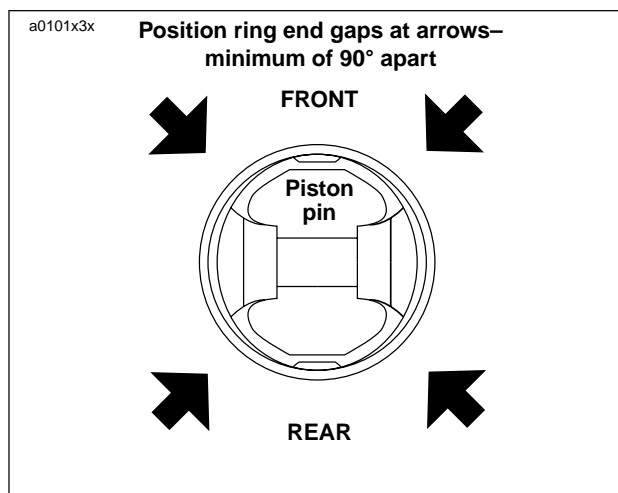

Figure 3-74. Ring End Gap Position
- See Figure 3-74. Install rings so end gaps of adjacent rings are a minimum of 90° apart. Ring gaps are not to be within 10° of the thrust face centerline.
5. See Figure 3-74. Make sure the piston ring end gaps are properly positioned as shown.